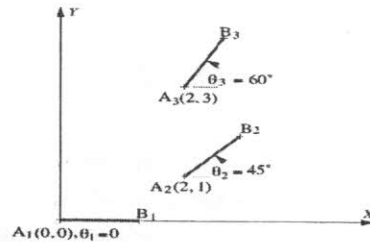

fig.5(b)
- b) In the fig.5(b), $AB = 1.25$ cm. Use A and B as circle points, and design a four-bar linkage to move its coupler through the three positions shown. Use Grashof's equation to identify the type of four bar linkage designed.